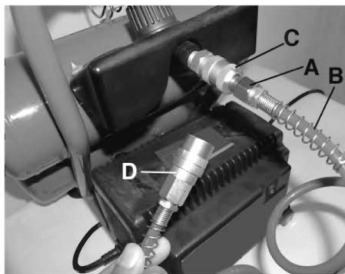

FIGURE 7
- 3) Attach the 1/4in. female fitting (A Fig.7) to one end of the coil hose (B), then connect the female fitting (A) into the quick connect outlet (C) at the back of the compressor, then attach the 1/4in. female quick connect (D) to the other end of the coil hose. Attach optional air tool or supplied accessories. To prevent air leaks, it is recommended to install Teflon Tape (not supplied) on the threads at both ends of the coil hose.